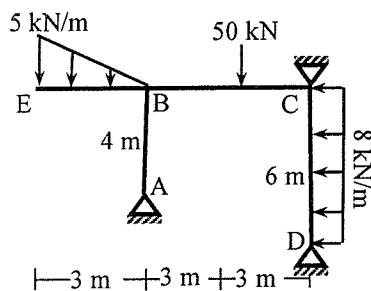

Fig.8
8. Analyze the frame shown in Fig.8 using Moment Distribution Method to draw the bending moment diagram [$EI = \text{Constant}$]. [15]